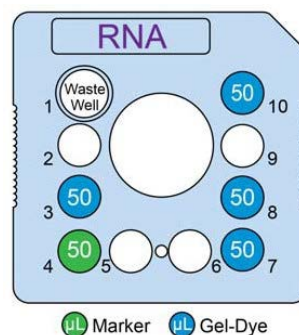

Figure 1. Low-throughput (LT) chip preparation
3. Using a Reverse Pipetting Technique, add Gel-Dye solution to chip wells 3, 7, 8, and 10 as shown in **Figure 1 (LT)** or **Figure 2 (HT)**.
4. Add **50 µL (LT)** or **100 µl (HT)** RNA Marker  to chip well 4 as shown in **Figure 1 (LT)** or **Figure 2 (HT)**.